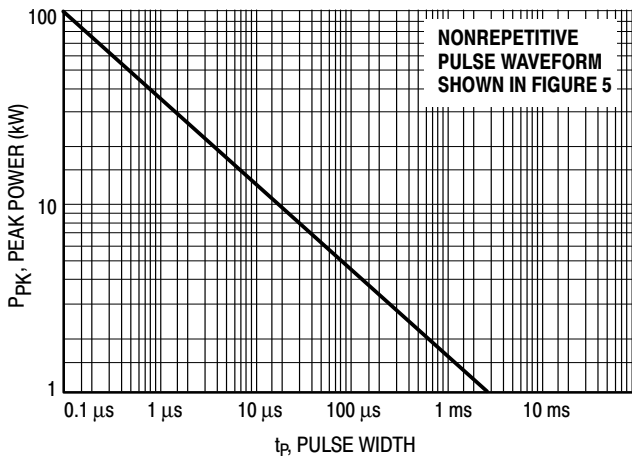
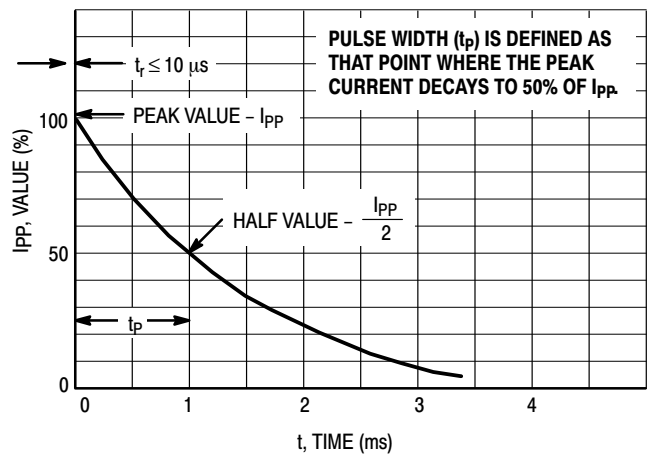
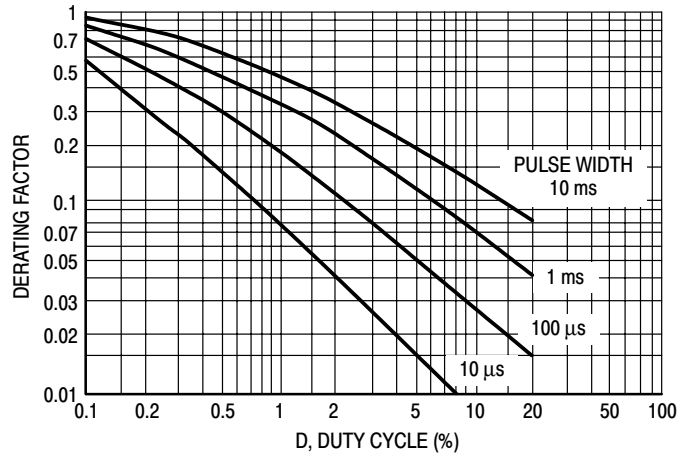

Figure 1. Pulse Rating Curve
Figure 5. Pulse Waveform
Figure 7. Typical Derating Factor for Duty Cycle
- Surge current waveform per Figure 5 and derate per Figures 1 and 2.
The data of Figure 1 applies for non-repetitive conditions and at a lead temperature of 25°C. If the duty cycle increases, the peak power must be reduced as indicated by the curves of Figure 7. Average power must be derated as the lead or ambient temperature rises above 25°C. The average power derating curve normally given on data sheets may be normalized and used for this purpose.
At first glance the derating curves of Figure 7 appear to be in error as the 10 ms pulse has a higher derating factor than the 10 μs pulse. However, when the derating factor for a given pulse of Figure 7 is multiplied by the peak power value of Figure 1 for the same pulse, the results follow the expected trend.